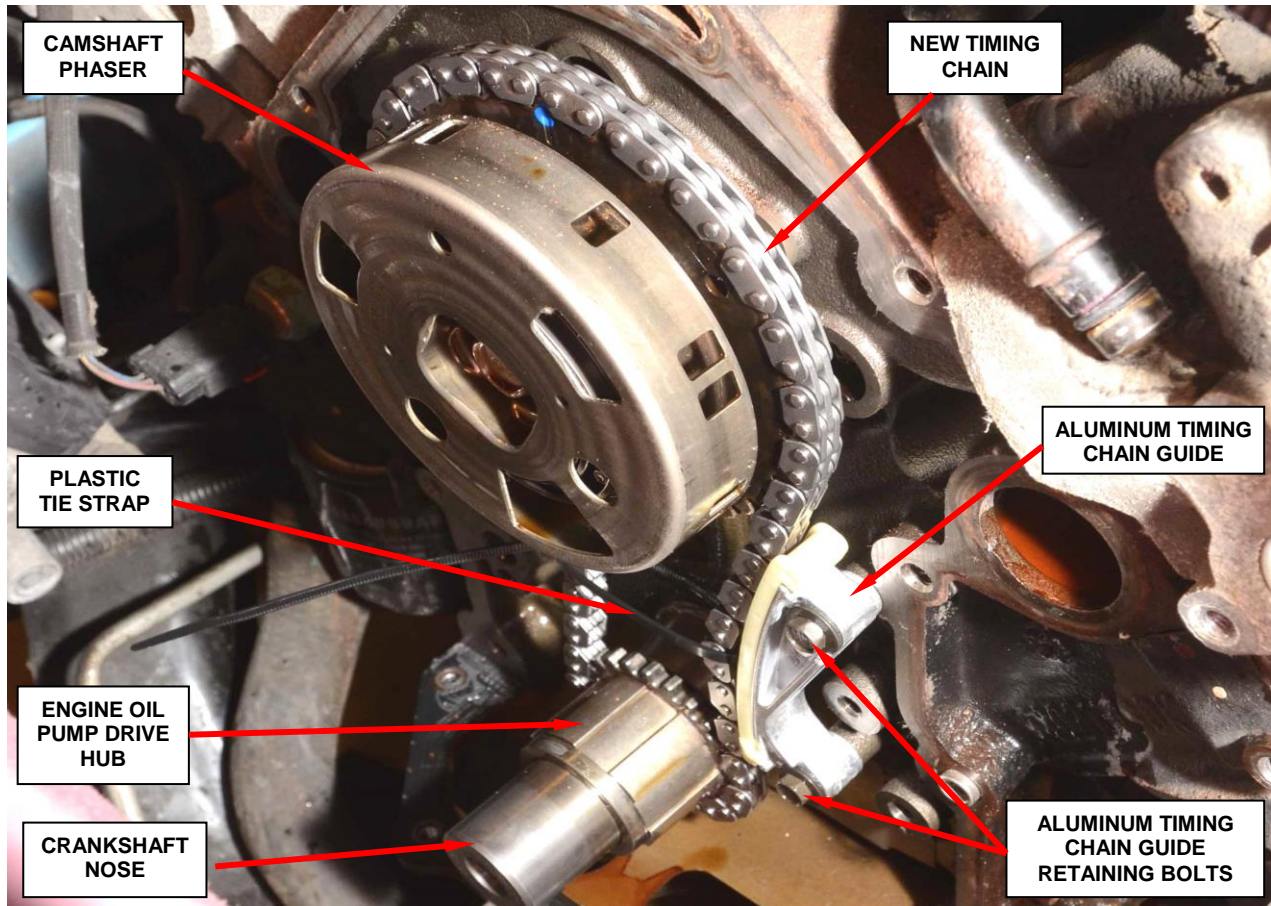

Figure 12 – Install Plastic Tie Strap to Maintain Chain Tension during Assembly
52. Install the new aluminum timing chain guide supplied in the repair kit (Figure 12). Tighten the timing chain guide retaining bolts to 98 in. lbs. (11 N·m).
53. Using a mirror, verify that the crankshaft sprocket timing mark is in the correct position (Figure 11) and then install a plastic tie strap around the timing chain to hold tension on the timing chain (Figure 12).